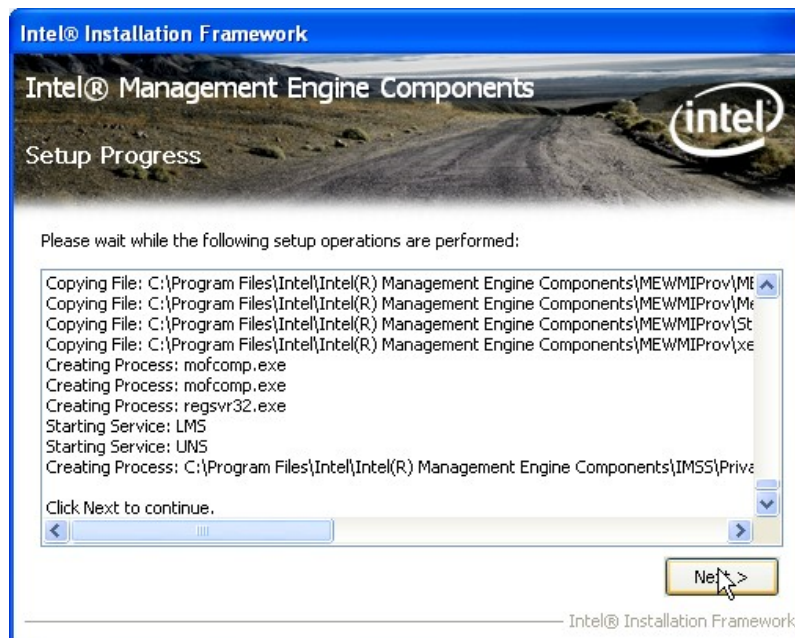

Figure 6-26: Intel® ME Driver Setup Operations
Step 12: **Setup Operations** are performed as shown in **Figure 6-26**.